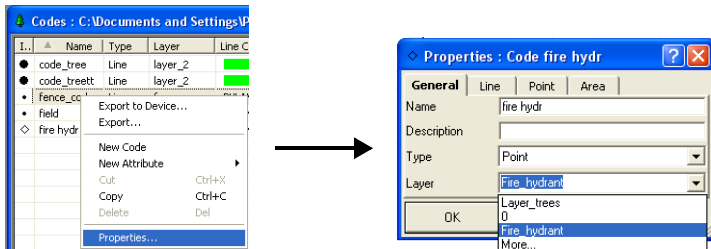

Figure 5-66. View Code Properties and Edit Name
1. Right-click the selected code and click **Properties** on the pop-up menu (Figure 5-66).
2. On the *General* tab, edit the code’s and description’s names, select the type of the code (*point*, *line*, *area*, *auto*) and the layer (Figure 5-66). If the code is used for a point in the current job, the code’s fields, description’s names and the type of the code are not editable.